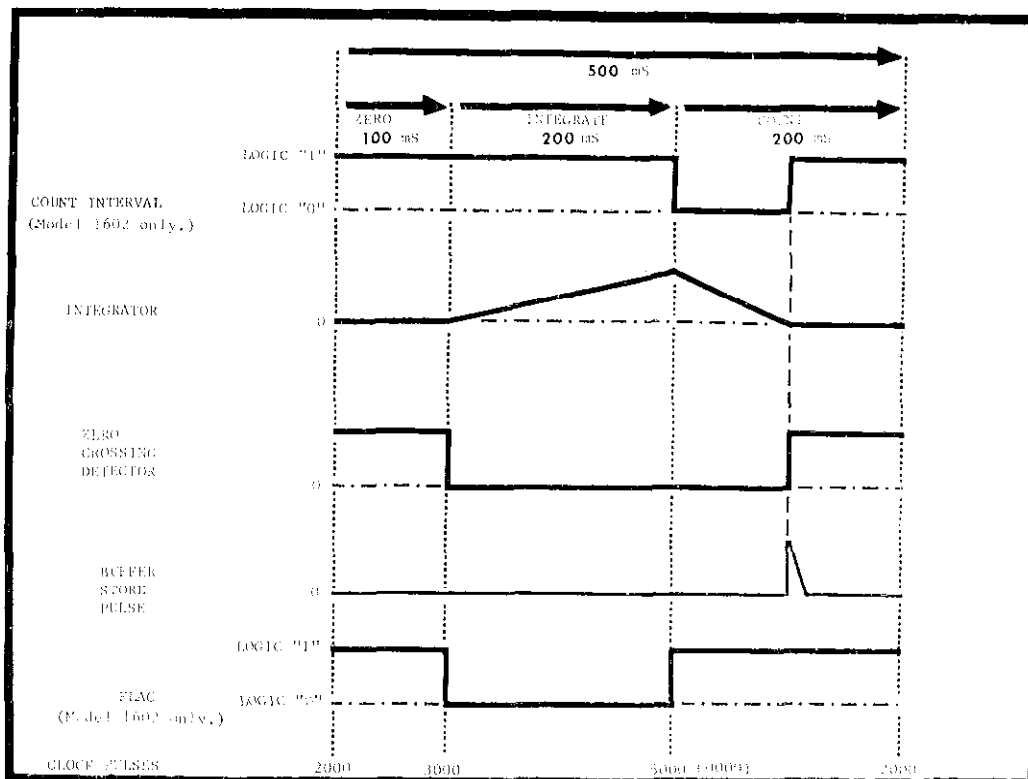

FIGURE 6. Timing Diagram.
a. General. (refer to Figure 9 for a detailed block diagram of the A-to-D converter) The analog-to-digital converter uses a dual slope integration technique which has inherent line frequency noise rejection. The analog signal is applied to the integrator for 200 milliseconds which is an even multiple of the line frequency of 50 or 60 Hz. The analog signal is then removed from the integrator input. The voltage on the integrator is then driven to zero to complete the voltage-to-time conversion. The time interval to reach a "Zero Crossing" is counted and displayed on the "Digital Readout" in proportion to the original analog signal. Before the sequence is repeated, the integrator is rezeroed. (Refer to the Timing Diagram shown in Figure 6.)
f. Integrator. The Integrator circuit operation is composed of three periods (refer to Figure 6).